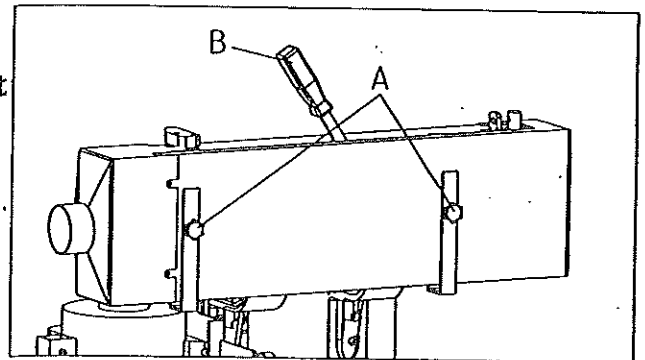

Fig. 2
4. Remove two lock knobs (A. fig. 2) for belt guard and remove the belt guard. Take out sanding belt packed in the belt guard.
5. Place handle (B. fig. 2) on belt tensioning shaft. move handle to take tension off the mechanism.
8. Tension the belt by moving the tension handle lever (B. fig. 2) to the right. Rotate the belt by hand in the direction indicated by the arrow on the belt guard. If belt tracking needs adjustment, see "Belt Tracking Adjustment" on page 6.